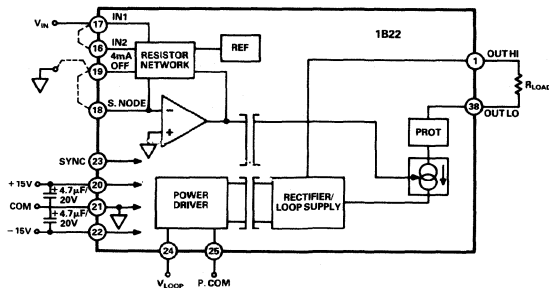
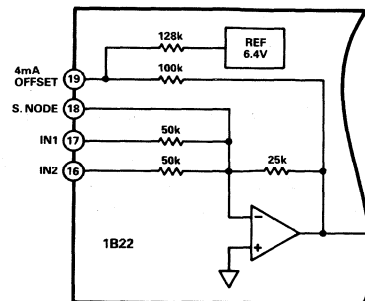

Figure 2. Basic Interconnections
Figure 3. Internal Resistor Network
**Basic Interconnections:** The 1B22 may be applied to achieve rated performance as shown in Figure 2. For 0 to 10 V signals either IN1 or IN2 can be used for input; for 0 to +5 V signals jumper IN1 to IN2. Similarly, for 4 to 20 mA operation the 4 mA OFFSET node should be jumpered to the S. NODE, while for 0 to 20 mA it should be tied to COM. Figure 3 shows the functional diagram of the resistor network used in the 1B22.